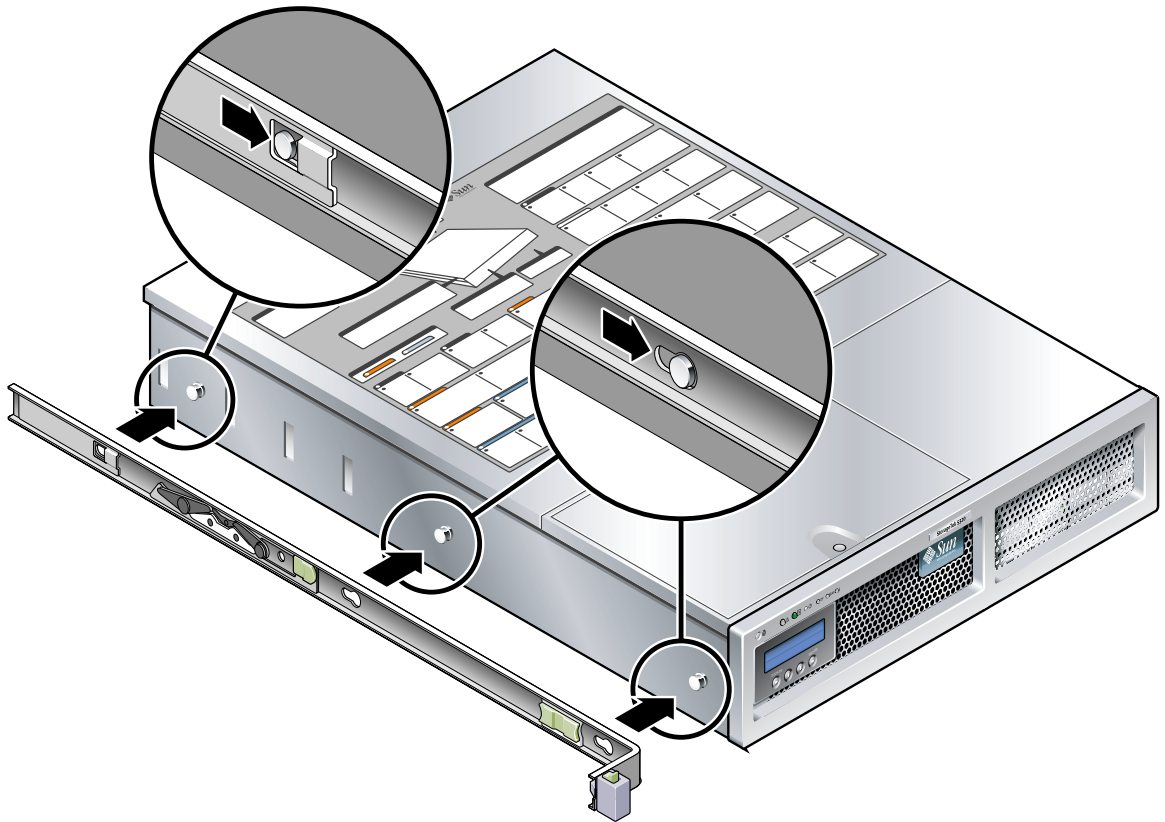

FIGURE 2-14 Attaching a Mounting Bracket to the Chassis
- a. Position the mounting bracket against the server chassis (FIGURE 2-14) so that the slide rail lock is at the front and the three keyed openings on the mounting bracket are aligned with the three locating pins on the side of the chassis.
- c. Verify that all three locating pins are trapped in the keyed openings and that the back locating pin has engaged the mounting bracket lock, as shown in the right side of FIGURE 2-14.